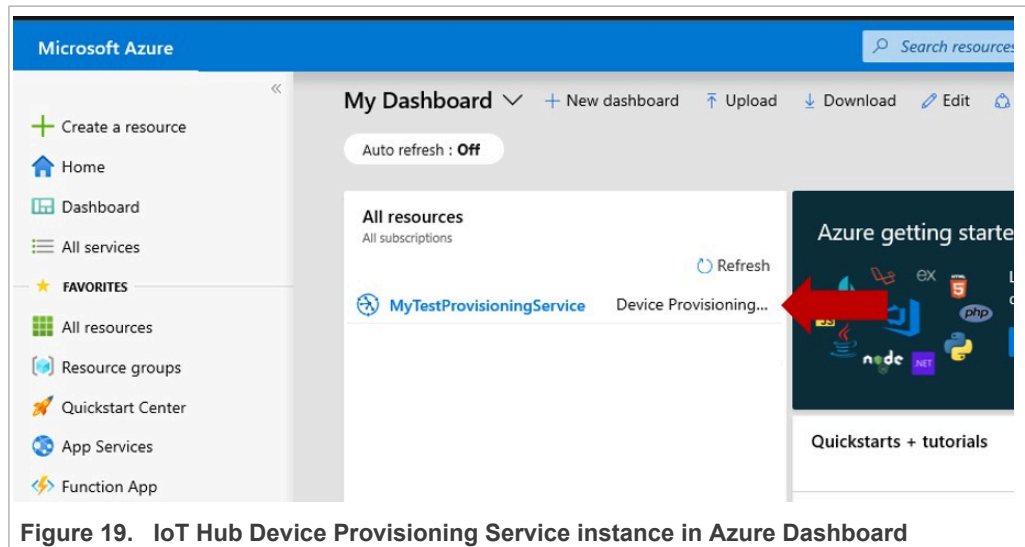

Figure 19. IoT Hub Device Provisioning Service instance in Azure Dashboard
- 3. Check in the Azure dashboard that the IoT Hub Device Provisioning Service instance has been deployed, as shown in Figure 19: